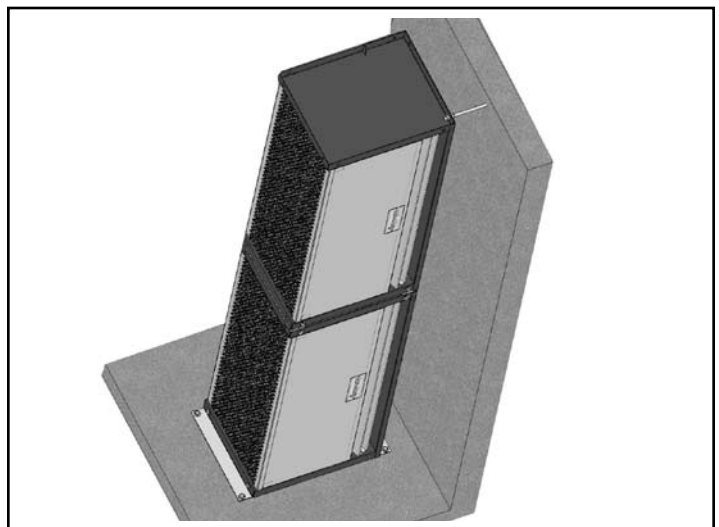

FIGURE 7 - Increased Stability
- E. To improve the stability of the installation, it is required that the top of the unit be attached to the wall. A common approach is to attach a minimum length of $\frac{3}{8}$ " threaded rod through one of the open mounting holes in the top endplate and affix the other end of the rod to the wall. **See Figure 7.**